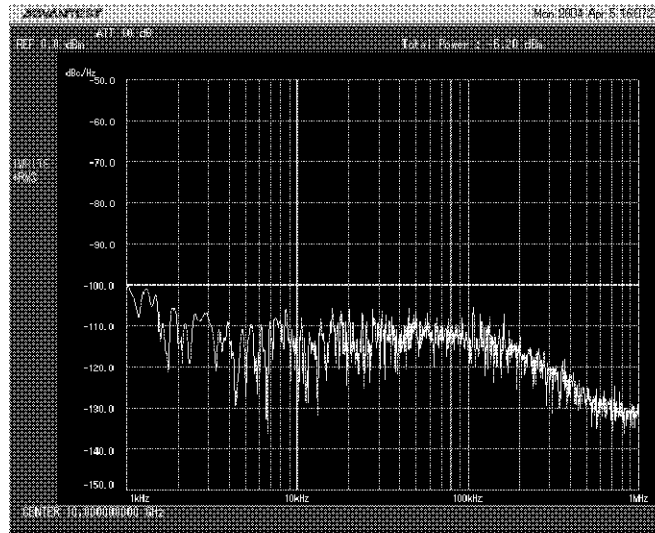

Figure 2-2 Phase Noise
3. Touch **{MENU2}** and **{MEAS}** in the function bar and touch **Phase Noise** in the menu bar to set the phase noise measurement function to on. The waveform shown in Figure 2-2 is displayed.